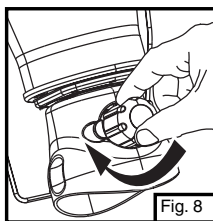

Fig. 8
- Turn fuel valve off. (Fig. 8)